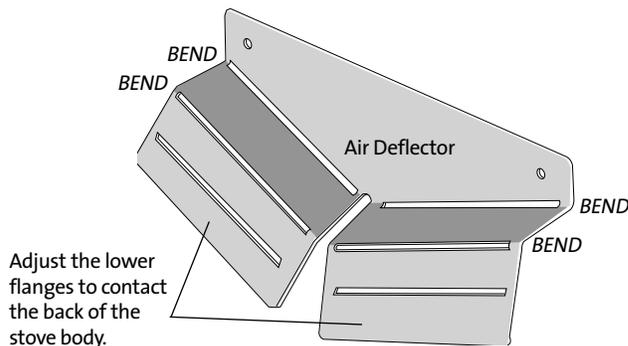

Figure 21. Air Deflector orientation.
2. **Attach the Air Deflector to Rear Shroud:** See figs. 21 and 23 /#3. Use pliers to bend the deflector tabs at the perforation lines as shown. Attach the deflector to the interior side of the rear shroud using two #8 X 12 sheet metal screws from the exterior side.
Use pliers to bend back the long, vertical flange to allow the bracket to fit flush against the back of the stove. (Fig. 21 and 23/#2) to the two center studs on the back of the stove, oriented as shown. Secure with two M6 flange nuts.
Attach the control box to either side of the rear shroud using a 1/4" socket driver and one #8 x 12 sheet metal screw as shown in fig. 21.